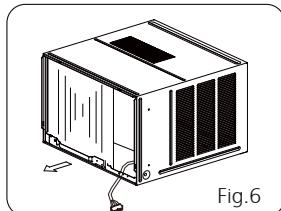

Fig.6
2. Grasp the handle on the chassis and carefully slide the air conditioner out of the cabinet.(see Fig.6)